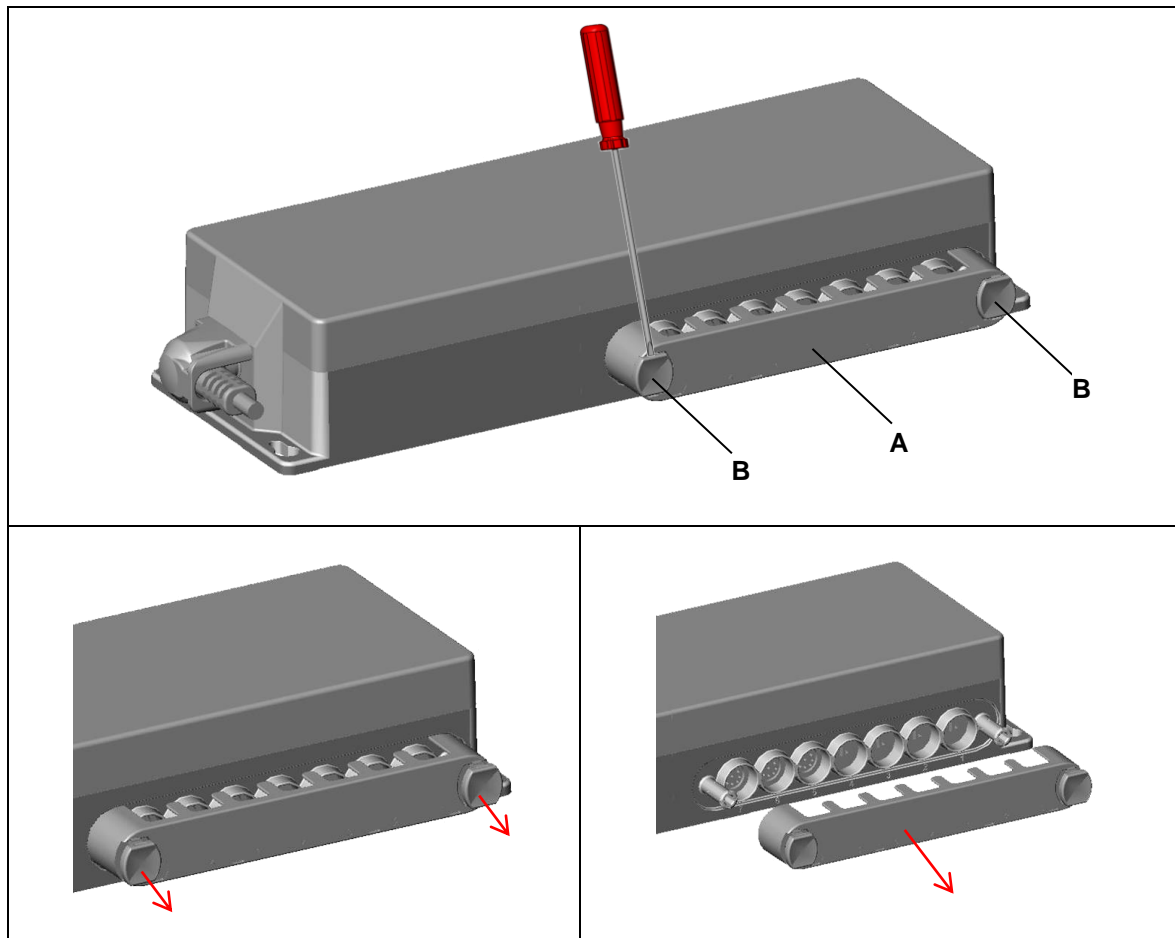

Figure 12 Opening the shield cover on the SG(AG) 300 control unit
Take off the shield cover (refer to page 21, figure 12) and plug the component plug into the proper socket. Make sure that you use the proper connection position as specified in the connection layout illustration (refer to page 11, figure 3).
- 2 Use a suitable tool to loose the both locking clips, refer to figure 12.
- 2 Use a suitable tool to loose the locking clips (refer to page 21, figure 12).
- 2 Open and remove the shield cover (refer to page 21, figure 12).
- 3 Disconnect all connecting cables from the SG(AG) 300 control unit.